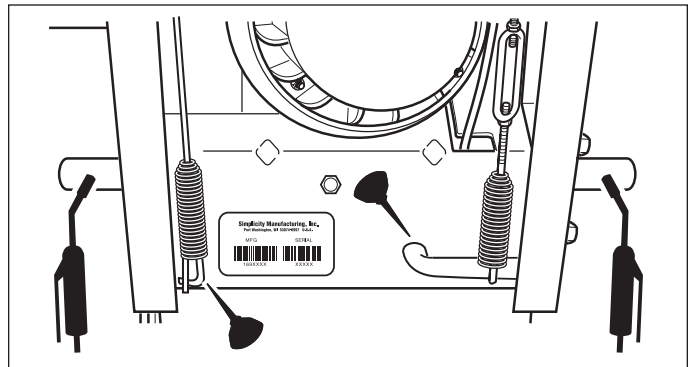

Figure 11. Grease Axles and Control Levers
2. Remove wheels and grease axles once each year (See Figure 11).